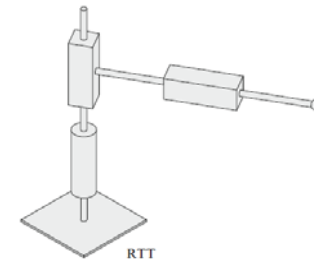

Figure 8.6 Cylindrical robot arm
- The cylindrical shape of the workspace is even more evident with the cylindrical robot arm (Figure 8.6).